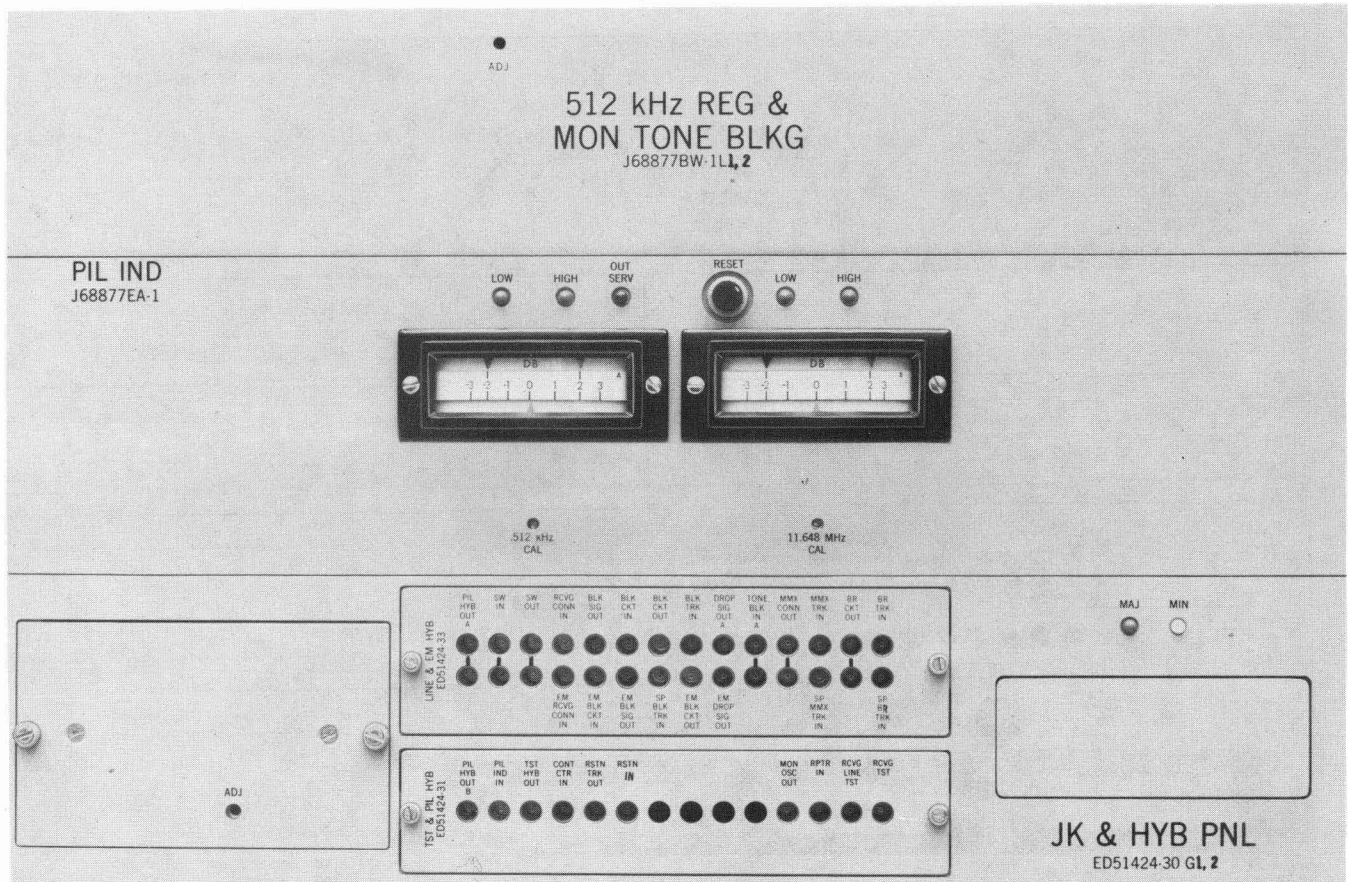

Fig. 1—Line Receiving Bay Panels
3.03 A pilot indicator panel J68877EA (Fig. 1) is provided in later L4 line receiving bays and in L4S line bays to indicate the relative levels of the received line pilot signals: 512 kHz and 11.648 MHz. Earlier L4 line receiving bays include jack and meter panel ED-50711 (Fig. 2) which is manufacture discontinued.